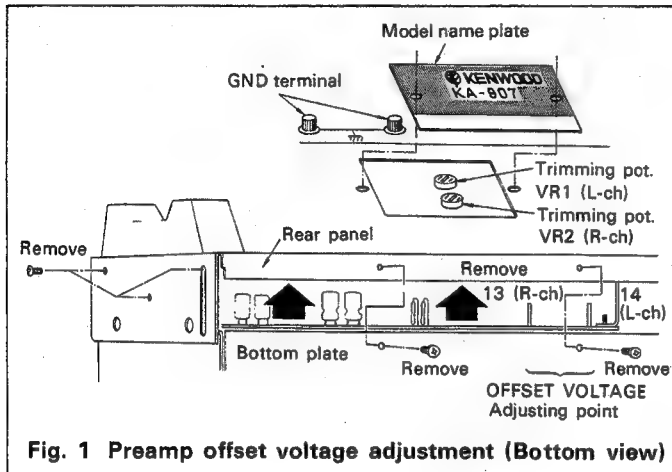

Fig. 1 Preamp offset voltage adjustment (Bottom view)
3. Adjusting the trimming pot. VR1 (VR2), as shown in Fig. 1, for 0V reading of the DC voltmeter.